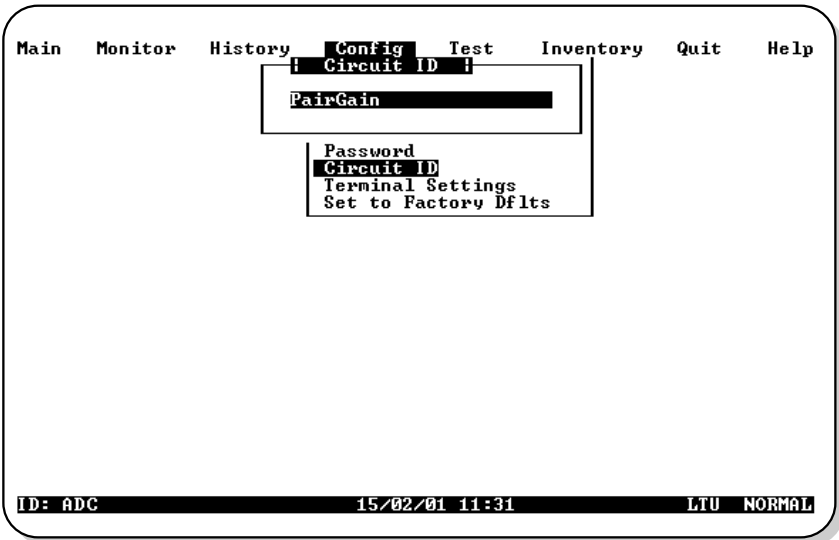

Figure 13. Config Circuit ID Menu
- 1 Press **C** at the Config drop-down menu to display the Config Circuit ID menu (Figure 13).